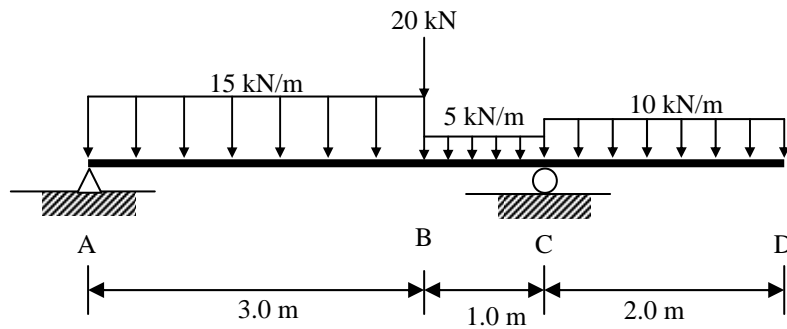

Figure 5
4. A beam as shown in Figure 5 is carrying a 20 kN concentrated load at B and three uniformly distributed loads of 15 kN/m, 5 kN/m and 10 kN/m along segment AB, BC and CD, respectively. The beam is pinned at A and supported by a roller at C.